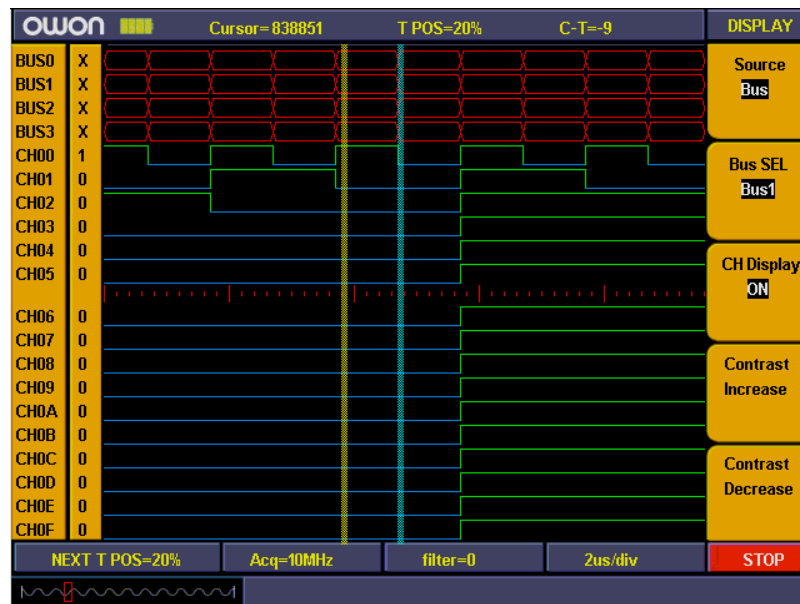

Figure 14
- 7、 Press “**F3**” and set signal sources as “**OFF**”. Repeat operation of steps 6.7 and set BUS1、BUS2、BUS3 all as “**OFF**”. Ref to fig. 14